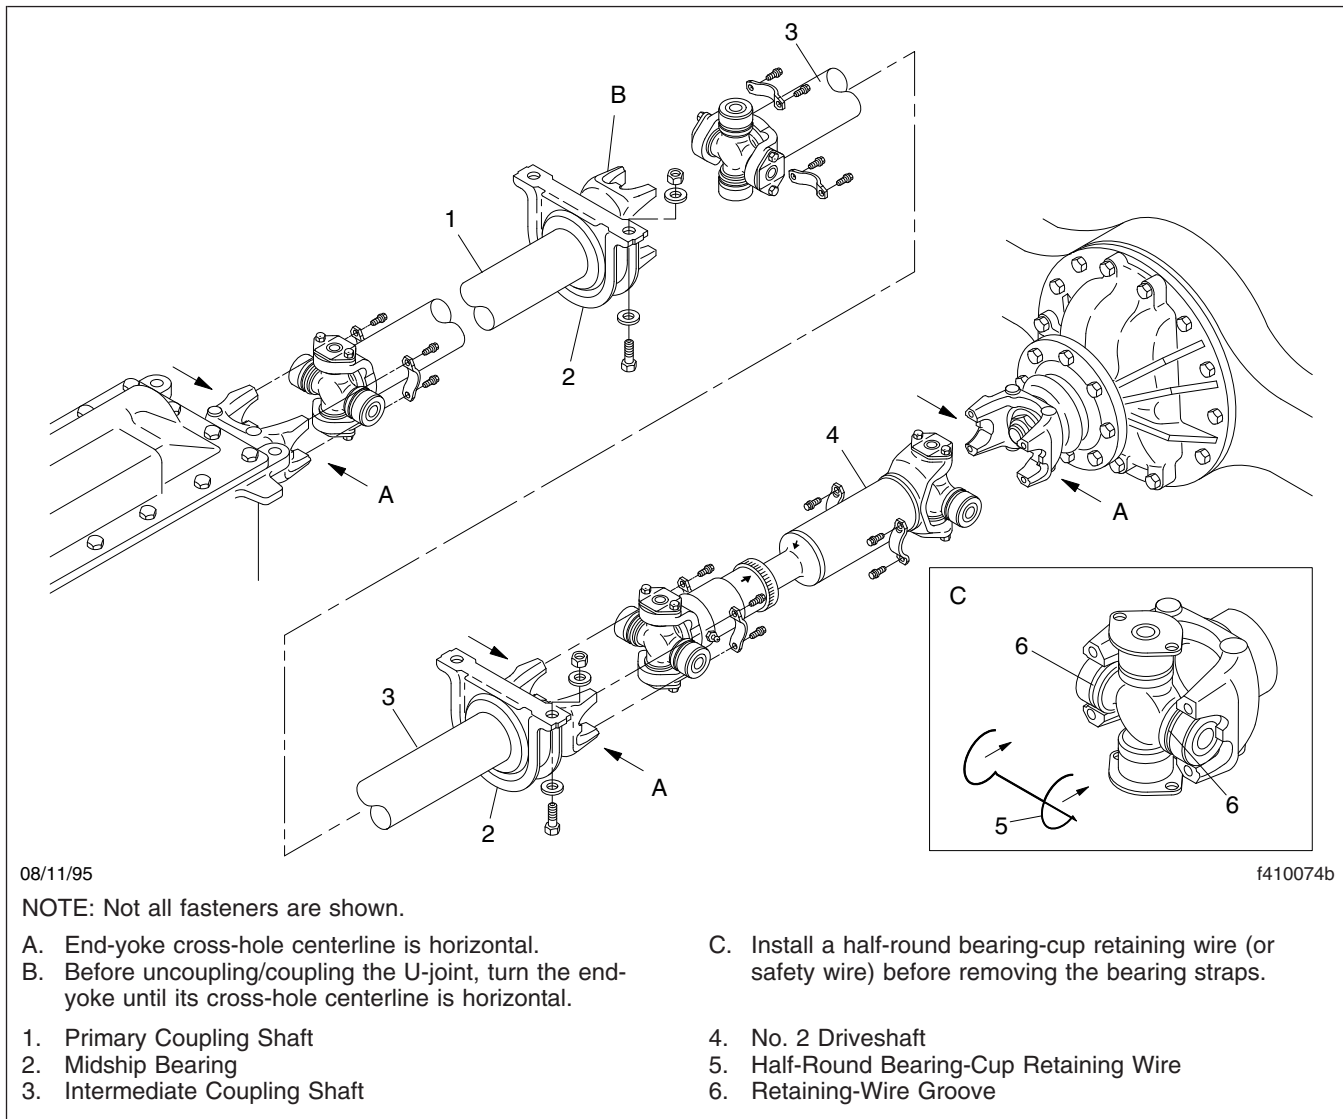
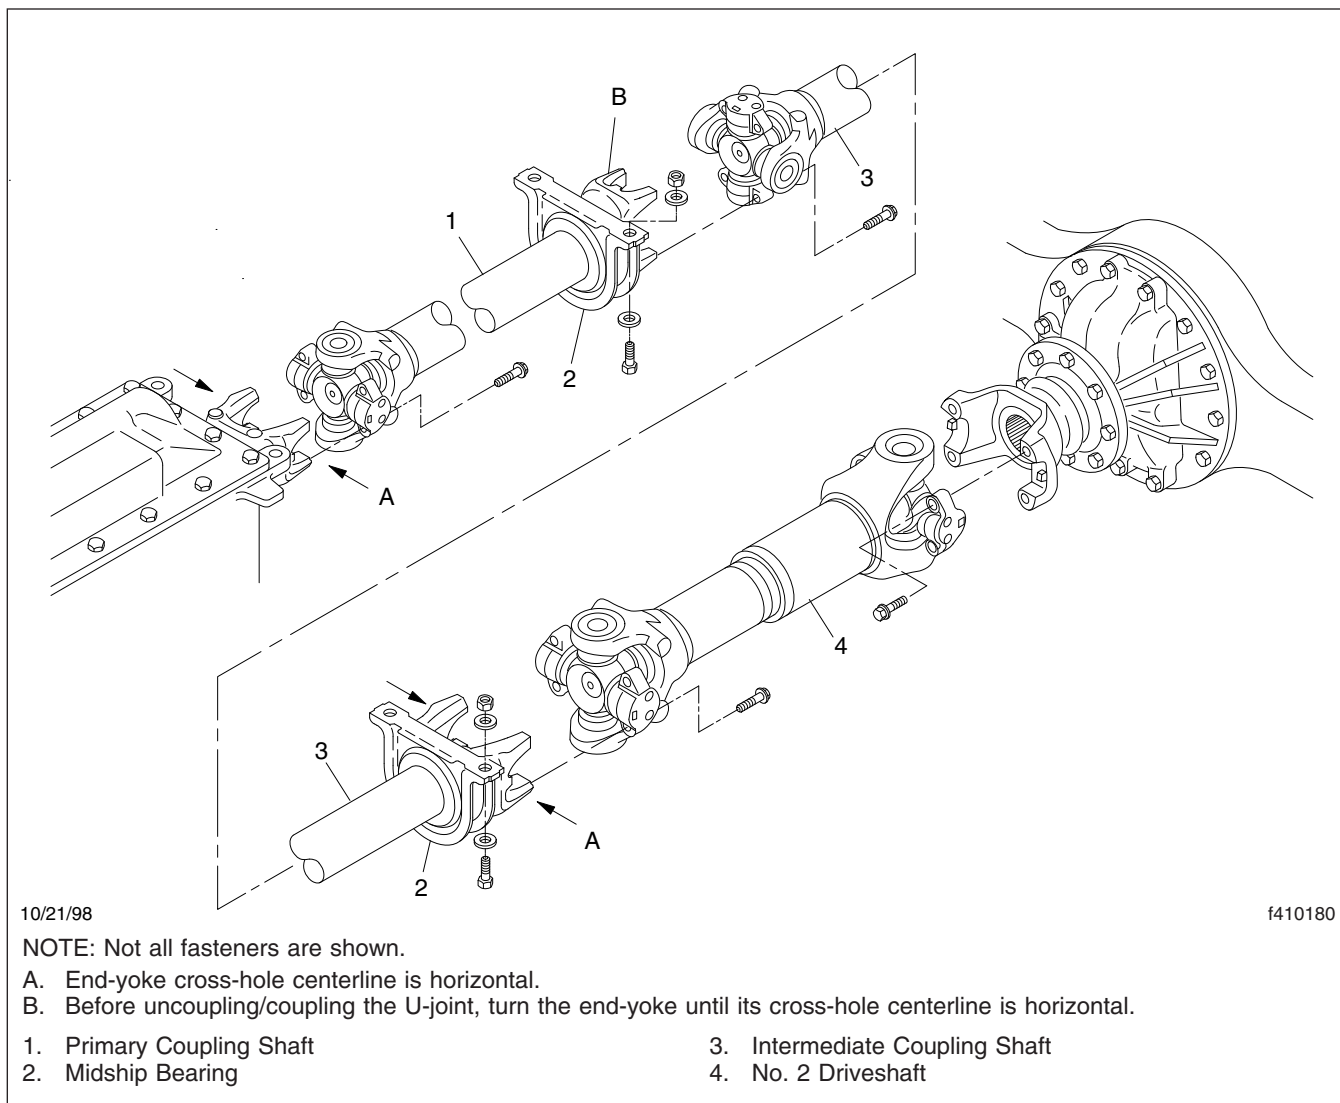

Fig. 1, U-Joint Uncoupling/Coupling for Drivelines With Half-Round End-Yokes, Except RPL U-Joints
Fig. 2, U-Joint Uncoupling/Coupling for Drivelines With Half-Round End-Yokes, RPL U-Joints
- 1.4 Turn the end-yoke until its cross-holes are horizontal. See Fig. 1 and Fig. 2.
- 2.1 Remove the bearing-cup retaining wire or safety wire. See Fig. 1, Ref. C.
- 2.7 Install a bearing-cup retaining wire. See Fig. 1, Ref. C. Or, install safety wire from the retaining-wire groove of one half-round bearing cup to the other.